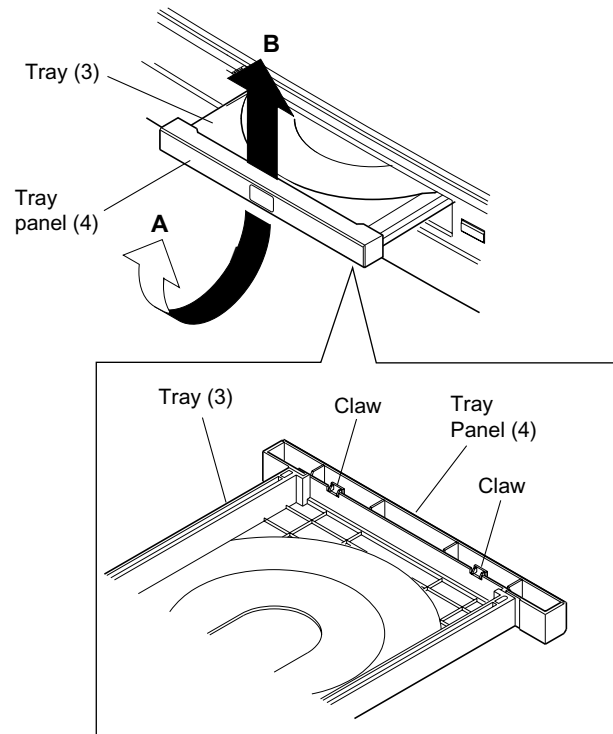

Fig. 2-1-16
1. Eject the tray (3).
2. Twist the tray panel (4) a little in the arrow A direction with the tray (3) hold by hand to release two claws and lift up the tray panel (4) in the arrow B direction, then the tray panel (4) is removed. (Refer to Fig. 2-1-16.)
3. When mounting the tray panel (4), insert the tray panel (4) along the grooves of the both sides of the tray (3) until clicking.